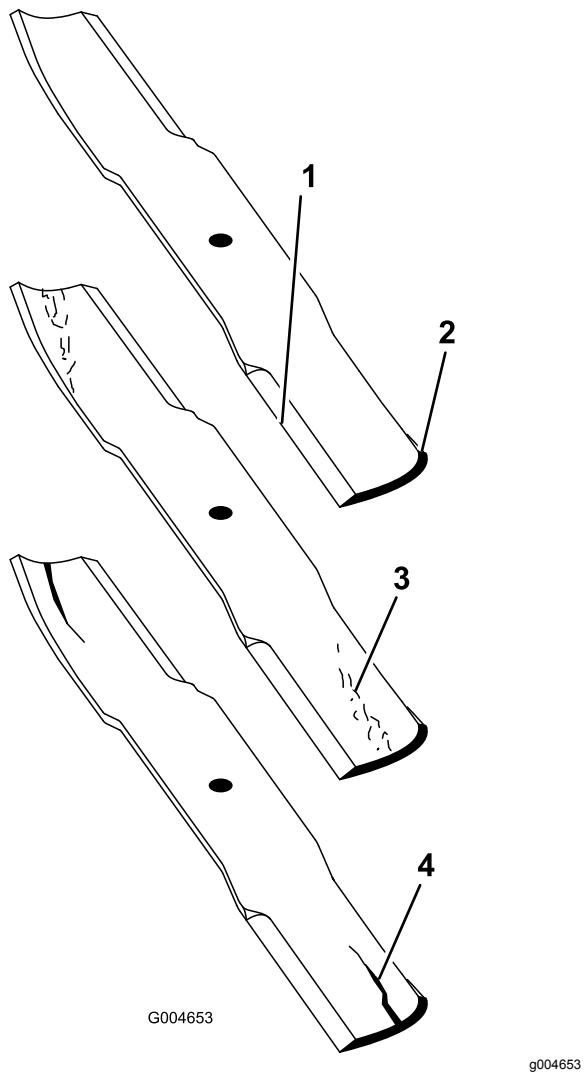

Figure 113
2. Examine the cutting ends of the blade carefully, especially where the flat and curved parts of the blade meet (Figure 113).
**Note:** Because sand and abrasive material can wear away the metal that connects the flat and curved parts of the blade, check the blade before using the mower. If wear is noticed (Figure 113), replace the blade.